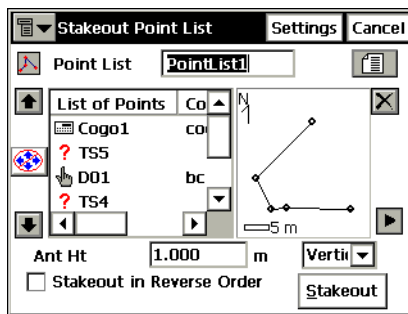

Figure 7-14. Stakeout Point List
2. In the *Stakeout Point List* screen, select a pre-existing points list, set the antenna parameters (GPS mode): height of the antenna reference point (ARP) above the mark and the type, or the height of the rod (target) (TS mode). To perform stakeout starting from the end of the Point List, check *Stakeout in Reverse Order*. Use the arrow buttons to modify the order of stakeout. Then tap **Stakeout** (Figure 7-14).